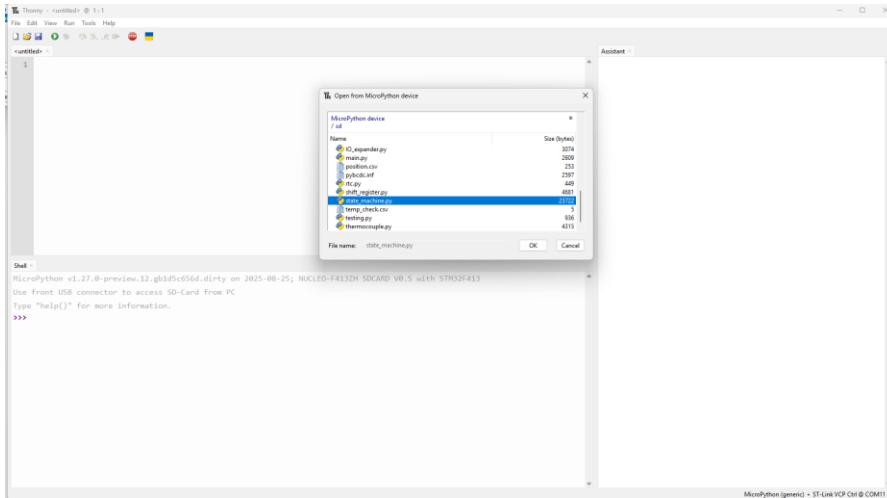

Figure 10: Choosing the state_machine.py file
- Click **MicroPython Device**, scroll down and the IDE should resemble Figure 10